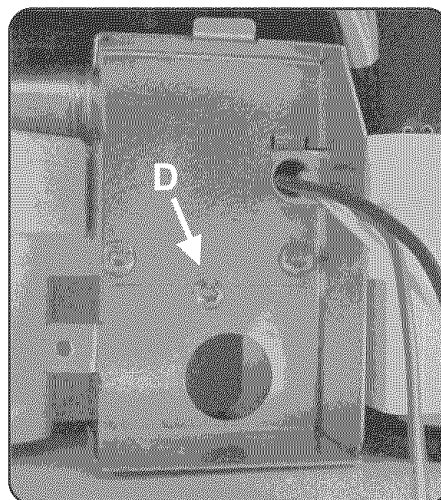

Figure 13
- 2) Remove the strain relief plate by removing the screw at the back of the junction box, as shown in Figure 13, letter D and sliding the strain relief plate out.